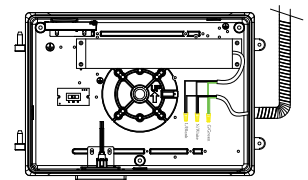

Figure 29
9. Pull the supply conductors through the side KO hole. Connect the Line, Neutral and Ground wires from the driver to the supply conductors. (see Fig. 29)